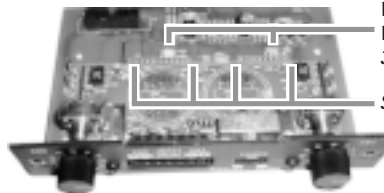

Figure 2b. The input panel (MPC)
- 5 Desolder and remove the wire jumper pairs indicated in Figure 2b or 2c.